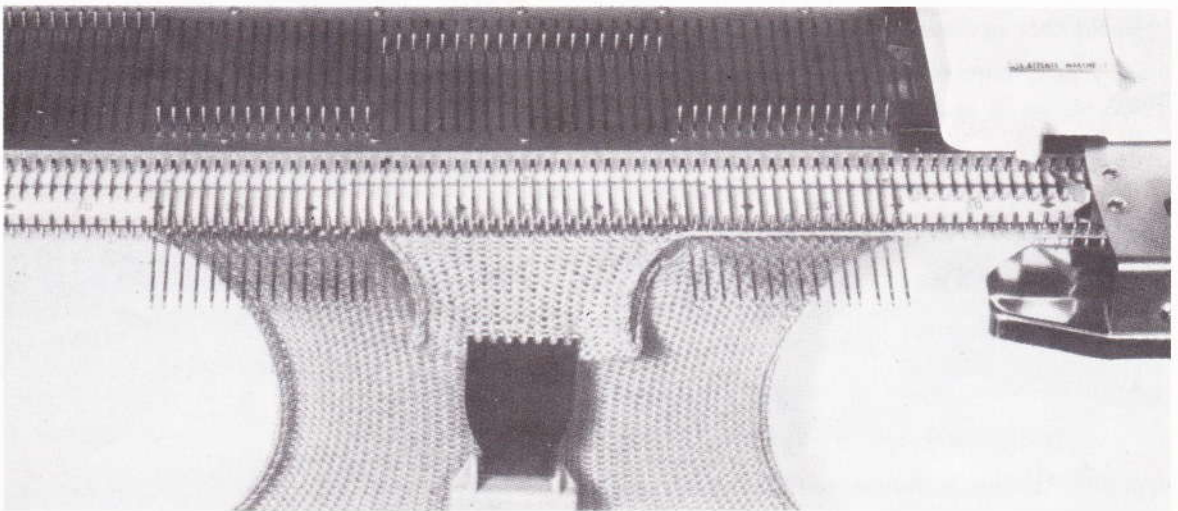

Fig. 177
4. Knit 10 rows, hook on the side weights and continue to knit pocket lining until row counter indicates 39 (fig. 177) (moving side weights up every 10 rows). The carriage is on the right. Take off side weights.